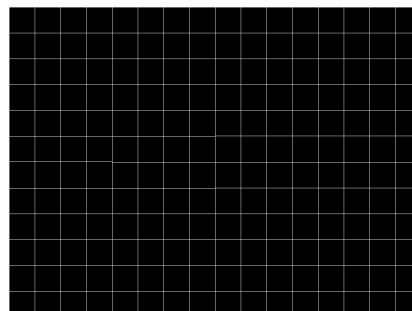

Figure 10. Example of Grid Lines Test Pattern
13. As noted in Table 4, the colors for the grid lines pattern are specified using both the foreground and background colors. The foreground color is used for the grid lines, and the background color is used for the space between the lines. As noted in Table 5, the user specifies the horizontal foreground and background line width, as well as the vertical foreground and background line width. The user determines the line spacing for each resolution display. For example, if the horizontal foreground line width = 1, and background line width = 9, there would be a single pixel horizontal line on every tenth line. If the vertical foreground line width = 1, and background line width = 9, there would be a single pixel vertical line on every tenth line. An example of a grid lines pattern is shown in Figure 10.